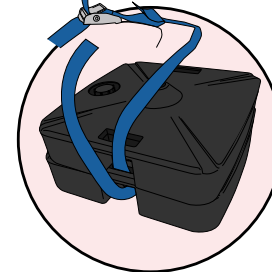

Fig 5.
5. Position the bases on top of each other lining up the handles. Thread the blue strapping through the handles and back through the metal clip making sure the strap is not twisted. (see fig 5)